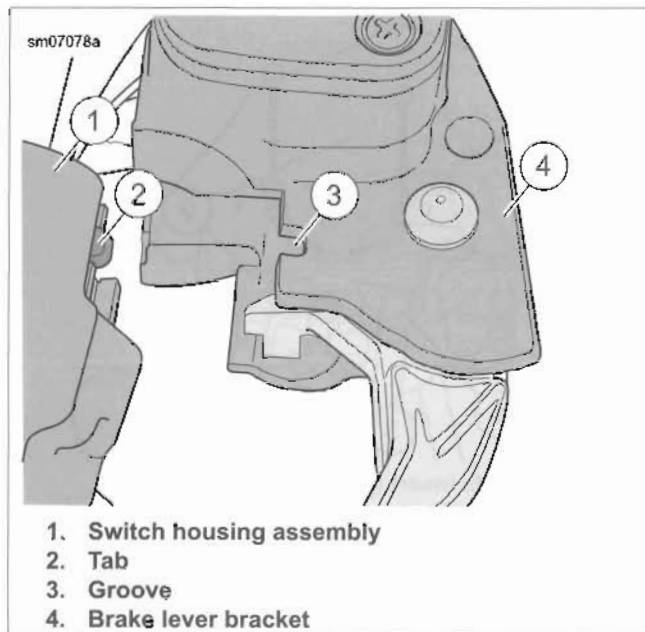

Figure 7-119. Attach Master Cylinder to Right Handlebar Switches
9. See Figure 7-119. Position the brake lever/master cylinder assembly inboard of the switch housing assembly, engaging the tab (2) on the lower switch housing in the groove (3) at the top of the brake lever bracket.